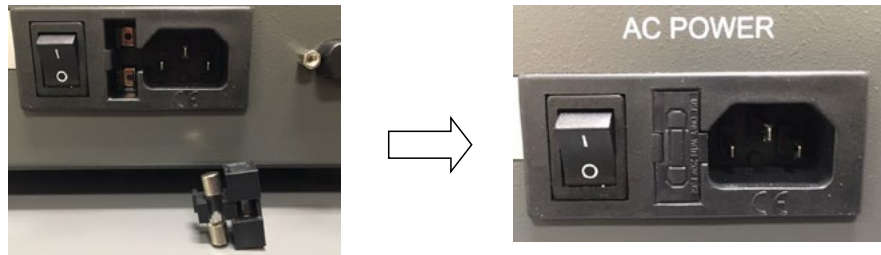

Figure 5.1.2
- (3) Replace the fuse with a new one (3.15A / 250Vac Fast Acting), then install the fuse box back. (Fig. 5.1.2)